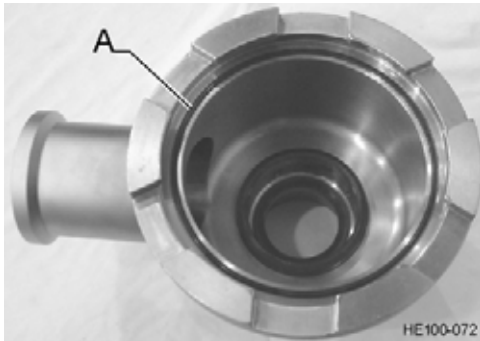

Figure 26 - Opposite Drive End Head O-ring
1. If opposite drive end head has been removed, make sure O-ring (See Figure 26, Item A) is installed in opposite drive end head.